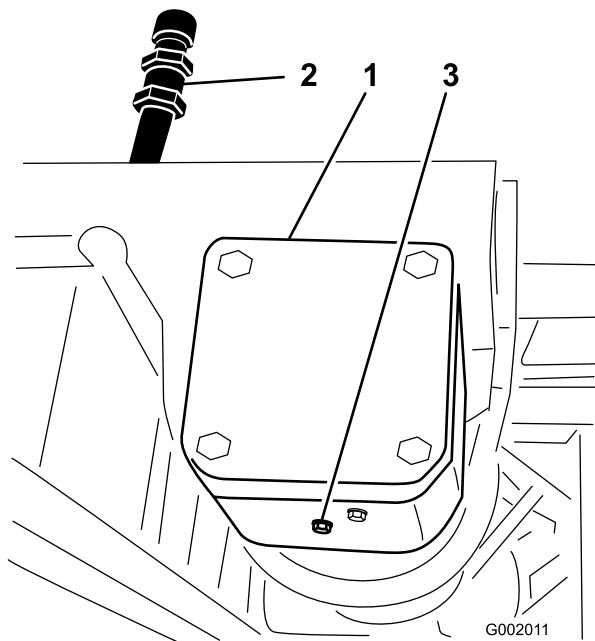

Figure 69
2. Place a pan under the drain plug on the pump drive gear box (Figure 69).
3. Remove the fill plug and drain plug (Figure 69), allowing the oil to drain into the pan.